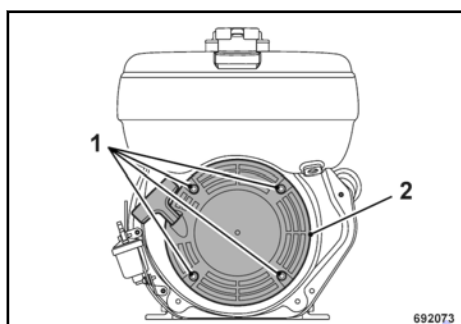

Fig. 55
Unscrew the fastening screws (1) ↪ Fig. 55 and pull the recoil starter (2) from the engine housing.